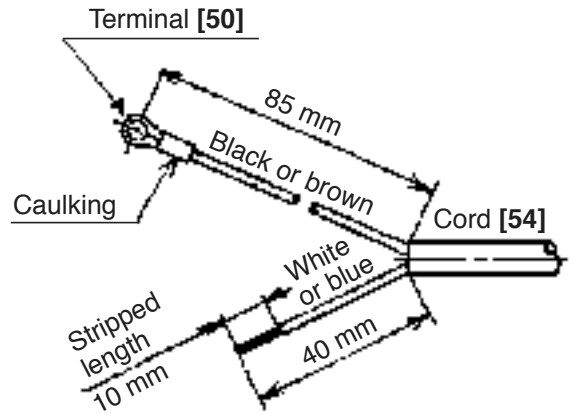

Fig. 3
- 1) Remove the standard cord (cord armor is integrally molded) according to the procedure of 8-1 (3).
- 2) Strip the coating on the internal wire of the Cord [54] about 10 mm from the tip and crimp the Terminal [50] to the brown or black internal wire as shown in Fig. 3.